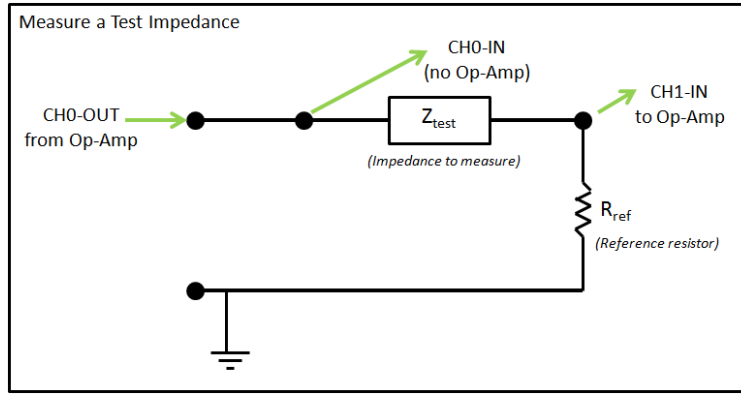

Figure 5: Circuit to measure a test impedance. The reference resistor  $R_{ref}$  should have an impedance magnitude similar to the test impedance.
2. Impedance-measurement circuit: Build the circuit shown in Figure 5, connecting to the op-amps and the MU box as shown in the diagram. To measure an impedance ( $V/I$ ) we need to know the current, but the MU box measures voltages. Using a voltage divider with a reference resistor  $R_{ref}$ , you can calculate the current, and thus measure an unknown impedance  $Z_{test}$ .
- (a) Place a “test resistor” (of known impedance) in series with the reference resistor  $R_{ref}$ . Your test resistor should occupy the place of  $Z_{test}$  in Figure 5.
- (c) Use two inputs (into the MU-box), taken across the ‘test resistor’ terminals. CH0-IN should be connected to the “high” side of the speaker, and CH1-IN connected at the place where the speaker and reference resistor are joined, as described in Fig. 5.
*NOTE: Every time you set up your lab circuit for the day, we suggest that you do a quick test with a resistor, as in Lab 1 (Fig. 5) to make sure everything is running properly!!!*
- If you wish to measure a **current**, you will need a reference resistor of some sort (i.e. by measuring the voltage across a known resistor, you can calculate the current). This can be like your circuit in Fig. 5, or you can measure the voltage across a known resistor inside the 2-port you are trying to characterize
In this lab you will measure the electrical input impedance Eq. 1, where  $V$  is the voltage across the speaker and  $I$  is the current through it. The loudspeaker will be in **series** like your resistor from Lab 1, so you should connect the loudspeaker according to Figure 5. The loudspeaker has two terminals; when you swap the two terminals, the polarity of the acoustic signal will change. Note the red dot next to one of the terminals. Take this as the “positive” terminal. So for some later experiments, this could make a difference in your results, but not for Lab 3. Note that these terminals represent *one* side of a two-port network - in the case of the loudspeaker, the other side of the network is the acoustical signal (pressure and volume velocity) at the loudspeaker cone.